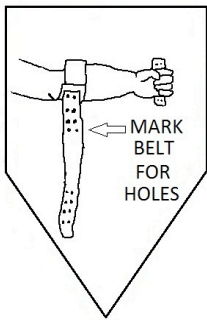

FIG. 4
**Step 3:** Attach belt (Fig. 3). Find the marks for the belt and place the belt over them. Now mark the width of the belt over both. Cut out slits for the belt. Choose a drill bit the same thickness as the belt and drill a hole at each end of the marks. Use the jig saw to cut the rest of the slit. If you don't have a jig saw I have used the following method: Drill holes across the lines as close together as possible and use a wood chisel to clean the slit up. Once the slits are cut insert the belt, feeding it the back and looping back in from the front. Pull the belt through until there is 2" left before the buckle hits. It doesn't matter whether the buckle is at the top or bottom, try both ways and see which is best for your. Place your arm on the shield and pull the belt through the buckle until snug. Mark the belt where holes need to be punched. From this point mark for more holes up the belt making it looser (Fig.4), this allows for extra clothing during winter and/or armor. Punch holes and attach grommets – grommets make the belt last MUCH longer!